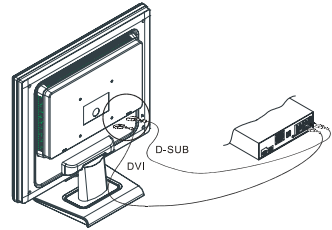

Figure 1-5
2. Connect one end of the signal cable to the LCD Monitor's D-SUB or DVI (option) port.(See Fig 1-5)